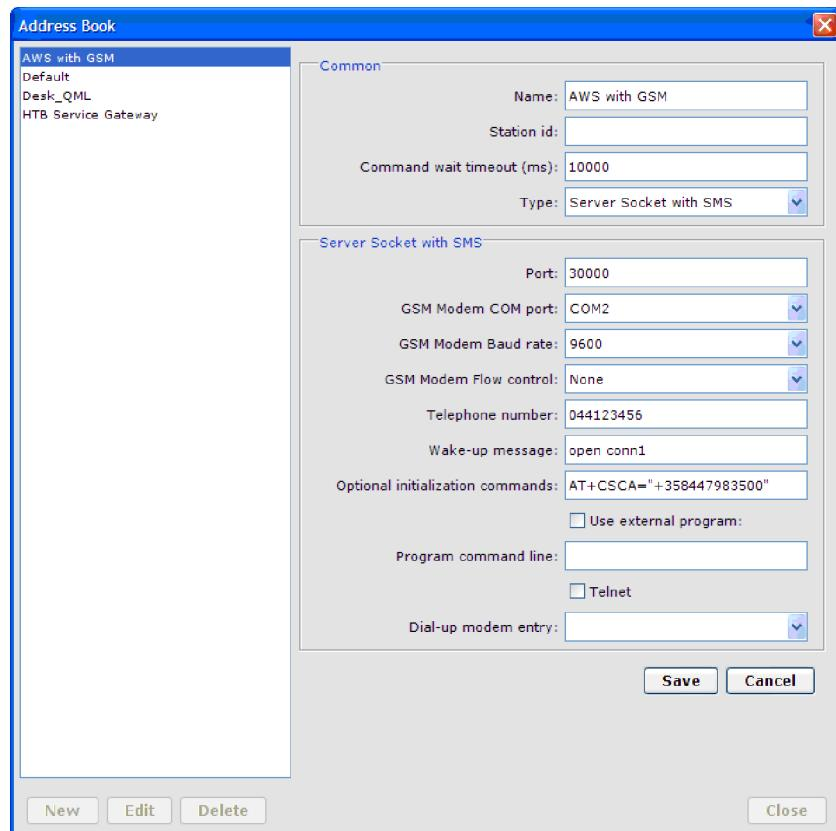

Figure 25 Creating Server Socket with SMS Address Book Entry
3. From the **Type** list, select **Server Socket with SMS** as the connection type. The fields for selecting the TCP/IP connection parameters are displayed, as shown in Figure 25 on page 51.